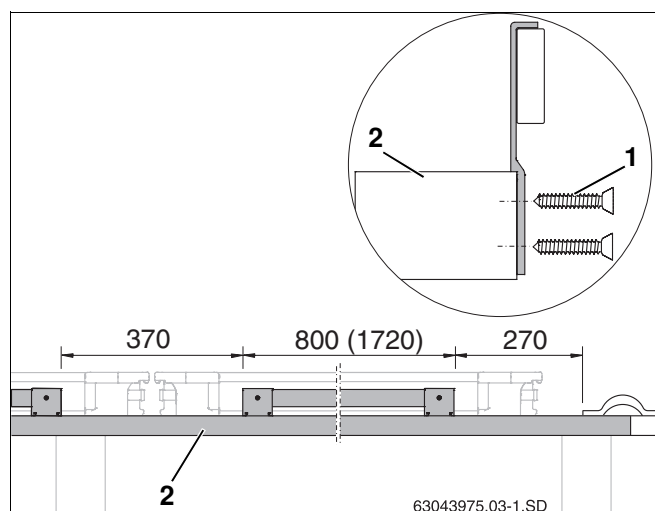

Fig. 11 Fasten anti-slip protection devices to roof batten (measurements in mm, value in brackets = landscape version)
- Place pre-assembled anti-slip protection device to the first additional roof batten (Fig. 11, **Item 2**), and fasten using two screws 4×40 (Fig. 11, **Item 1**) (observe measurements).